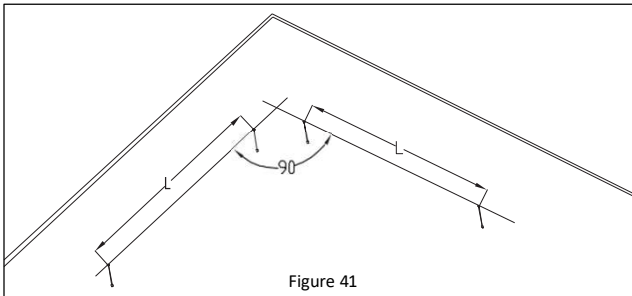

Figure 41
3. Make the mounting marks on the ceiling for fixtures, please refer to **Mounting Instructions** for mounting the fixture. **See Figure 41.**